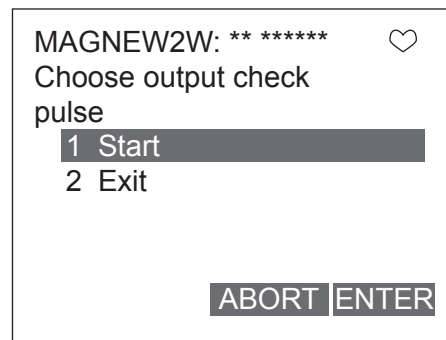

Figure 7-69
2. Figure 7-69 will then appear. Choose START to start fixed value of pulse output, and then press F4(ENTER)